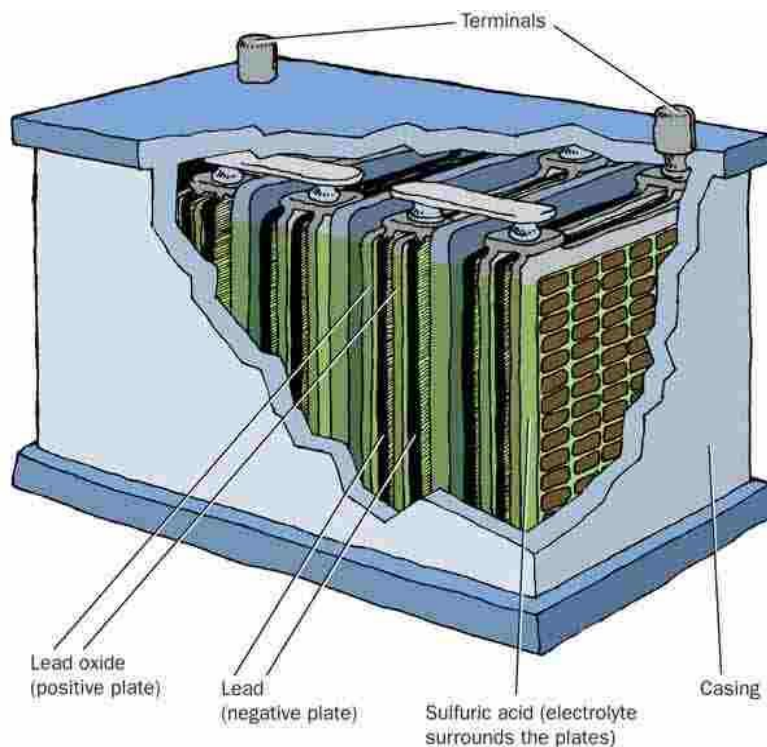

Fig. 9
- If the vehicle is fitted with a battery it must also be checked and maintained (Fig. 9).